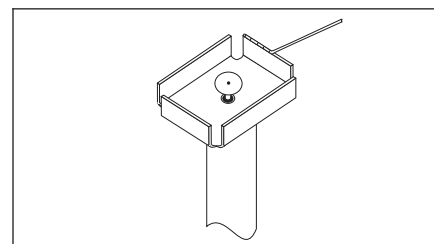

Figure 2 Tin Tip
7. Tin bottom edge of the tip with solder. (See Figure 2.)